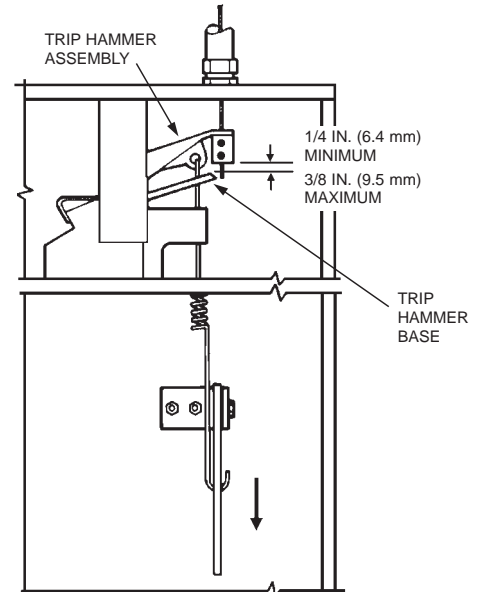

FIGURE 8
27. Inspect the base of the wire rope clamping device to make certain that there is a minimum of 1/4 in. (6.4 mm) to a maximum of 3/8 in. (9.5 mm) clearance between the base of the trip hammer assembly and the cable lever assembly. See Figure 8.